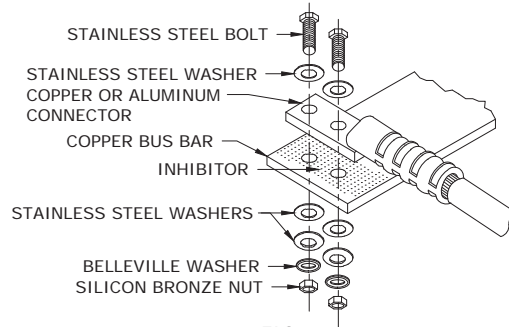

FIG. 2
2. TRANSFORMER/RECLOSER/REGULATOR NEMA SPADE TO CABLE LUG (FIG. 2).